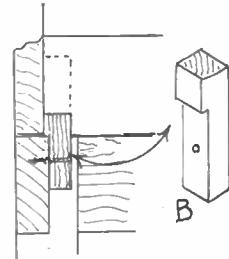

Fig. 3
It will be desirable in most cases to add stopping slips at the top of the stand to prevent the article on it from moving. These are cut to the shape at (B) in Fig. 3, and are nailed or screwed to the inside of the rails as in the diagram, and should project about $\frac{1}{4}$ in. above. As seen at (B) the projecting portion of these stops should be cut to make up any difference between the thicknesses of rails and plinth above.